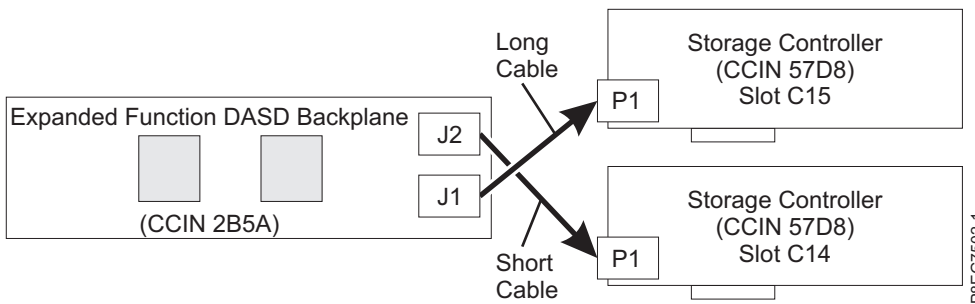

Figure 8. Reconnecting the SAS cable in an expanded function configuration
- The long SAS cable connects the lower disk drive backplane connector (J1) to the P1 connector on the SAS RAID internal adapter in slot P1-C15. See Figure 8.